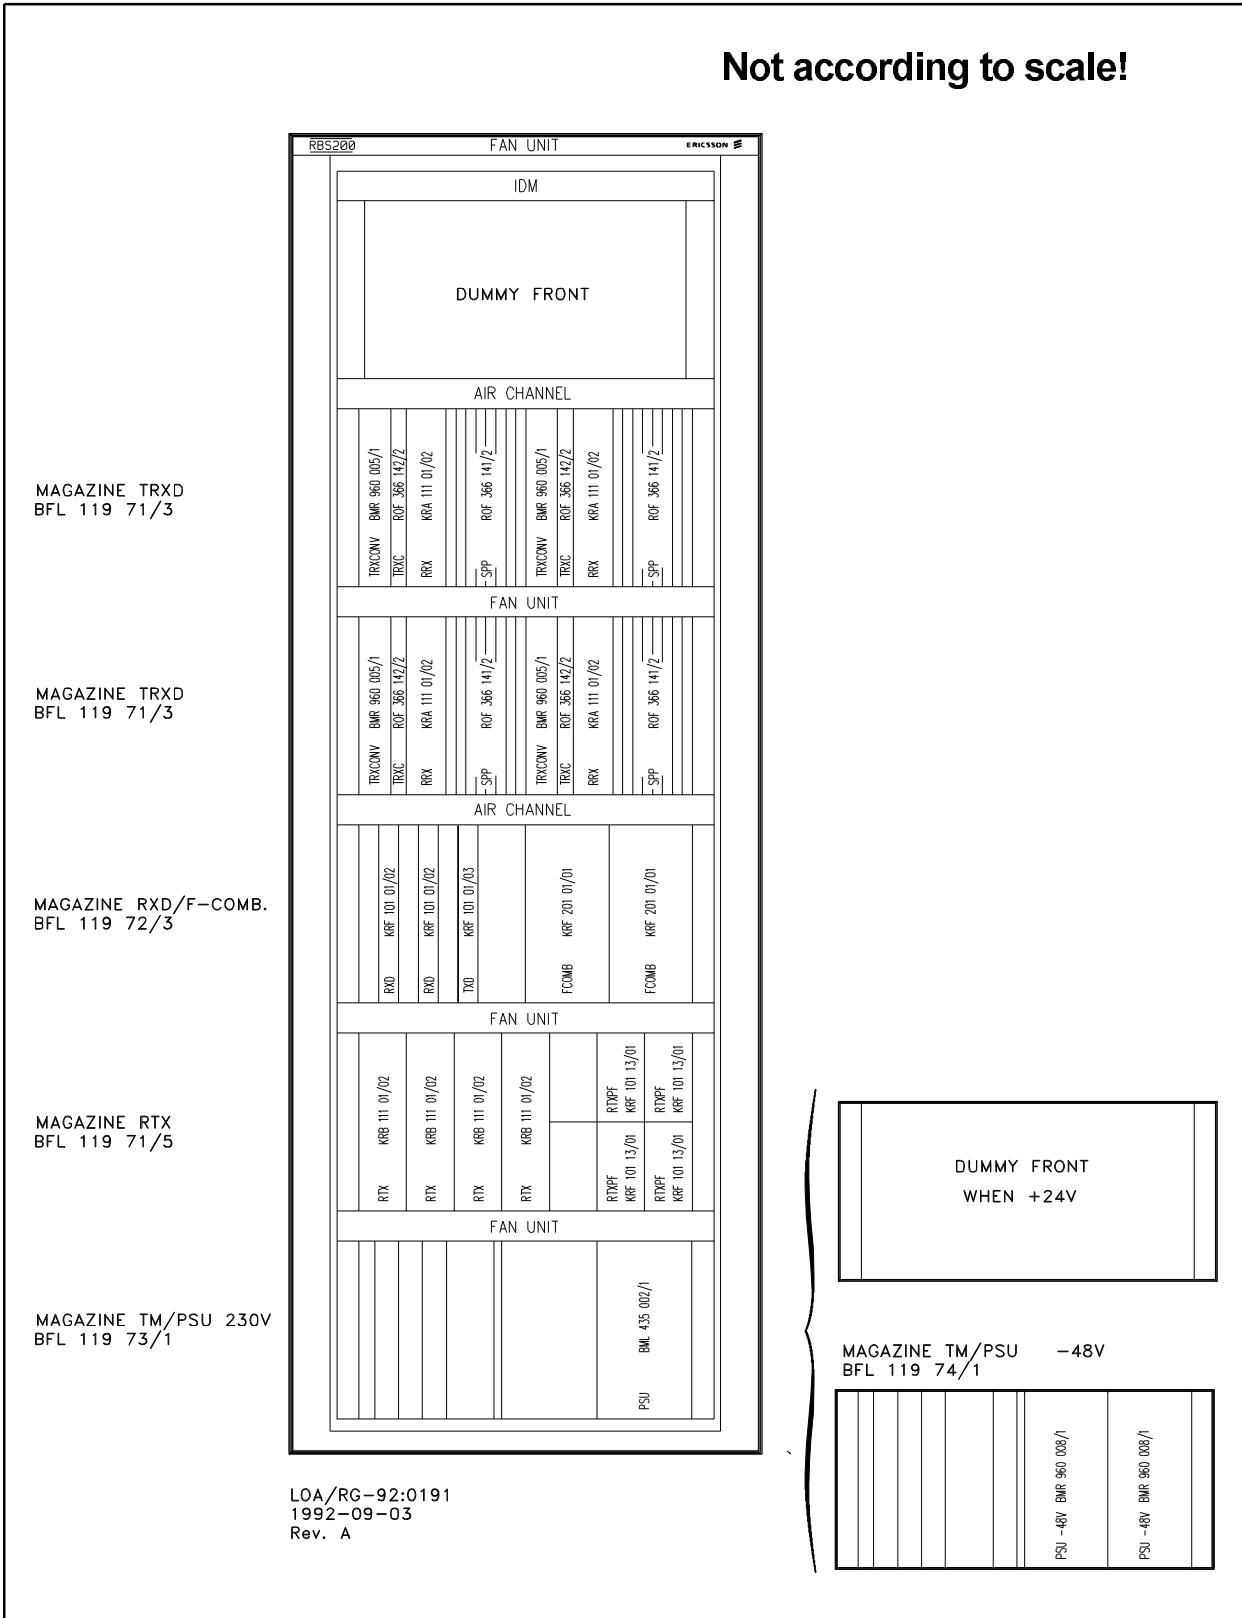

Figure 1 RBS 200 Extension cabinet, fully equipped
1. Locate the magazines in the omni and sector site cabinet(s) according to figure 1.